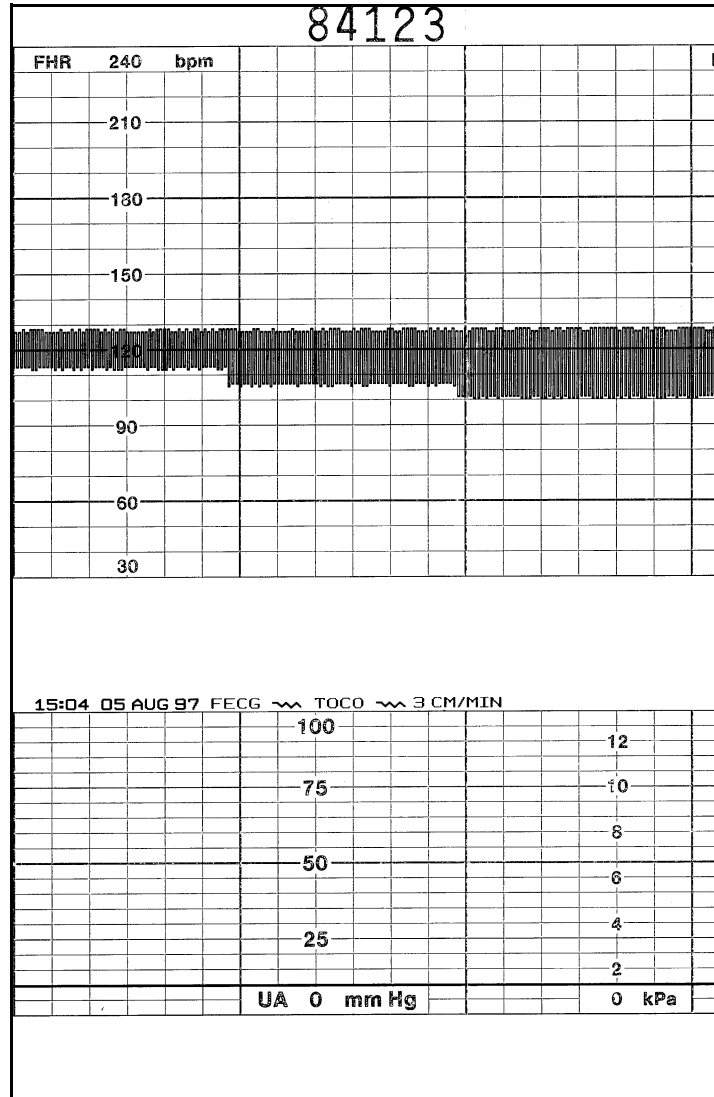

Figure 6-2. FECG Artifact Elimination
- ◆ The FHR trend oscillates 15 BPM between 115 and 130 BPM on the top grid of the strip chart paper. (See Figure 6-2.)
11. Repeat step 10 for rate values of  $\Delta$ 22 and  $\Delta$ 27. The results should be the same except that the FHR1 value oscillates by either 22 or 27 BPM and the FHR trend is an oscillation of 22 or 27 BPM. The top value is always at approximately 130 BPM. (Refer to Figure 6-2.)
- ◆ The recorder prints an oscillation of 15 BPM between 115 and 130 BPM on the top grid of the strip chart paper. (Figure 6-2. shows the strip chart paper results.)